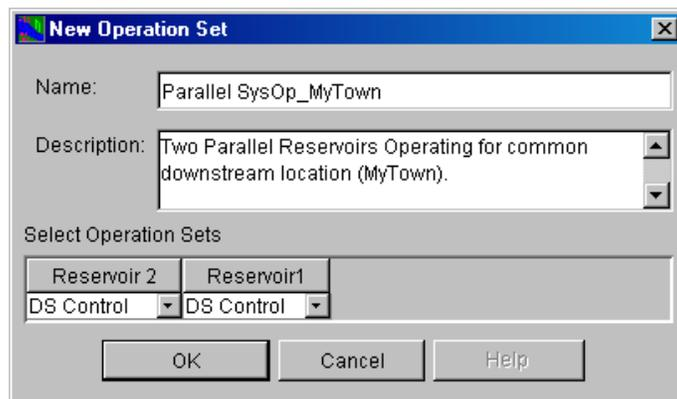

Figure 12.17 New System Storage Balance Operation Set for Reservoir System
1. Select **New** from the **Operations** menu of the **Reservoir System Editor**. The **New Operation Set** dialog box will open (Figure 12.17).